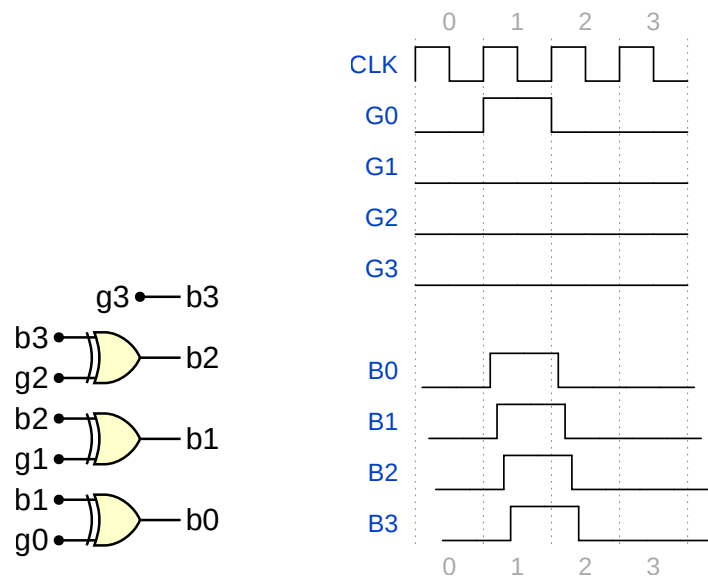

Figure 4: Solution to Exercise 3.
- Generate the logic gates that convert 4-bit gray code to 4-bit binary code, and show that it works with a timing diagram. *See Fig. 4.*